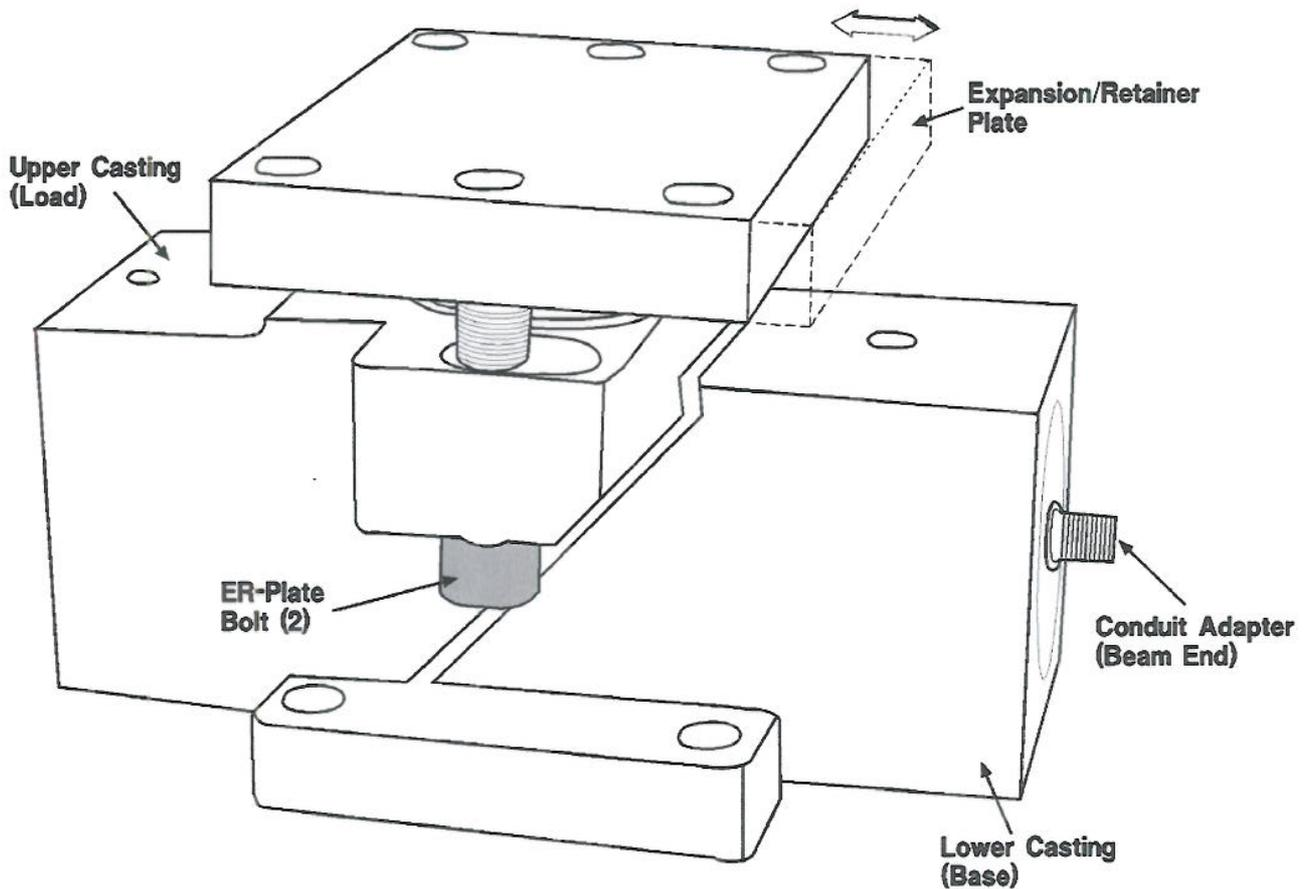

Figure 2-1. The Z-BLOK Weigh Module
This publication provides mechanical and electrical installation instructions for Z-BLOK Weigh Modules (Figure 2-1). Z-BLOK Weigh Modules are low profile weight transducer devices designed for simple mechanical installation. Each module contains a double cantilever type transducer and mounting hardware which typically allows installation under process and inventory vessels without stay and check rods. Four bolts (customer supplied) secure the Z-BLOK module to a foundation or base, and four bolts (customer supplied) attach the vessel/device to the expansion retainer plate. Customer supplied bolts should be grade 8.8 or stronger.
Z-BLOK installation instructions refer to specific parts of the Z-BLOK Weigh Module. Use the Z-BLOK module diagram (Figure 2-1) to identify parts and part locations. NOTE: Do not attempt to remove the expansion retainer plate from the upper casting during installation. The two ER-Plate bolts are factory adjusted to allow exactly the right amount of 'play' for expansion, contraction, and side force accommodation. **TAMPING WITH THESE BOLTS VIOLATES Vishay BLH WARRANTY CONDITIONS.**
(3) **Top Mounting Surface Preparation:** Pre-drill holes in the leg or gusset of the vessel to match the bolt pattern of the expansion/retainer plate (see 1.4 Z-BLOK Dimensions). Allow for normal bolt clearance and adjustment. To allow maximum thermal expansion/contraction, the expansion retainer bolts (Figure 2-1) should be centered in their expansion slots on the upper casting. The expansion/retainer plate is drilled and tapped to accept standard size ANSI threaded bolts. Use grade 8.8 (or stronger) bolts of sufficient length to achieve four full threads of engagement in the weigh module. Do not weld the expansion/retainer plate to the vessel leg or gusset.